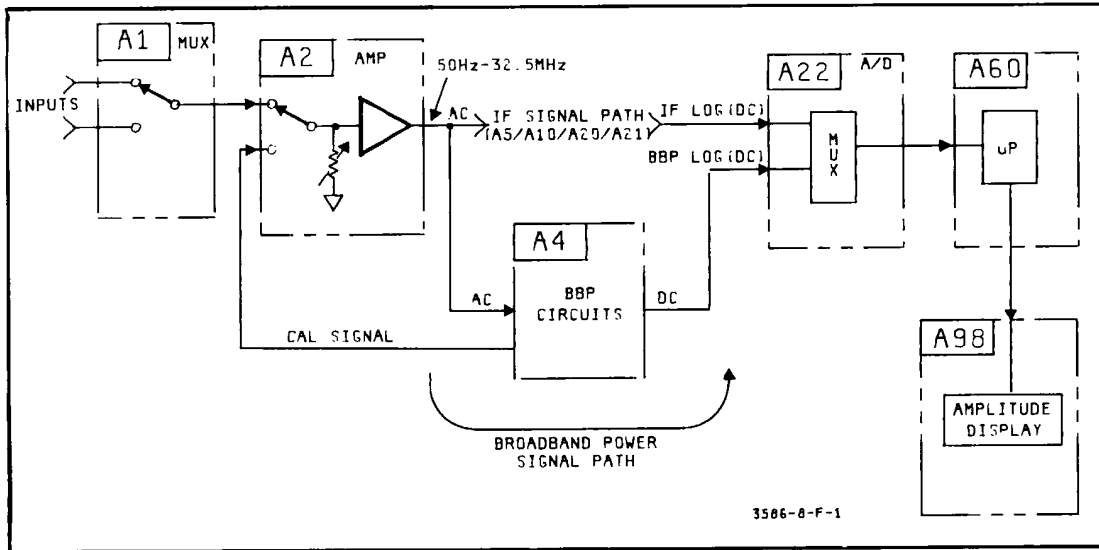

Figure 8-F-1. Broadband Power (BBP) Signal Path.
5. Failure of some circuit in the broadband power analog signal path (see Figure 8-F-1).
cors, one or more of the RF Gain steps is not being selected correctly. This could be caused by a bad relay driver or a faulty relay on A2. Problem 5 requires standard signal tracing using Figure 8-F-4.
8-F-14. Problems 6 and 7 are tied together. Use Tables 8-F-1 and 8-F-2 to see if the trip points are being set correctly. Note that the voltage at TP8 should always remain constant for a Full-Scale input signal regardless of the selected mode or Full Scale setting. The different trip point settings compensate for the differing input signal levels to the Detector/Logger circuit as shown by the tables. By holding the Full Scale setting constant and by raising or lowering the level of the input signal above or below Full Scale, the actual input voltages to the Underload/Overload Detector can be monitored. It is then relatively easy to verify that the detector is working by watching the red and yellow LED's on A4, and/or monitoring the status (HIGH or LOW) of the UNDERLOAD/OVERLOAD lines to A60. Refer to the schematic (Figure 8-F-2). For example, if the input signal level is greater than the Full Scale setting, the voltage at TP8 will be less than + 5.0 Volts. If the voltage drops below about + 4.85V (equivalent to about +1.0dB above Full Scale), comparator U6B should trip, U6(7) should go to the positive rail and XA4 (B14) should go HIGH (about + 1.8V) signaling an OVERLOAD condition to the A60 processor. If the signal level drops below full scale, when the voltage at TP8 exceeds + 6.65V (about - 7.5dB below Full Scale), comparator U6A should trip and XA4 (A14) should go HIGH signaling an UNDERLOAD condition to the processor.